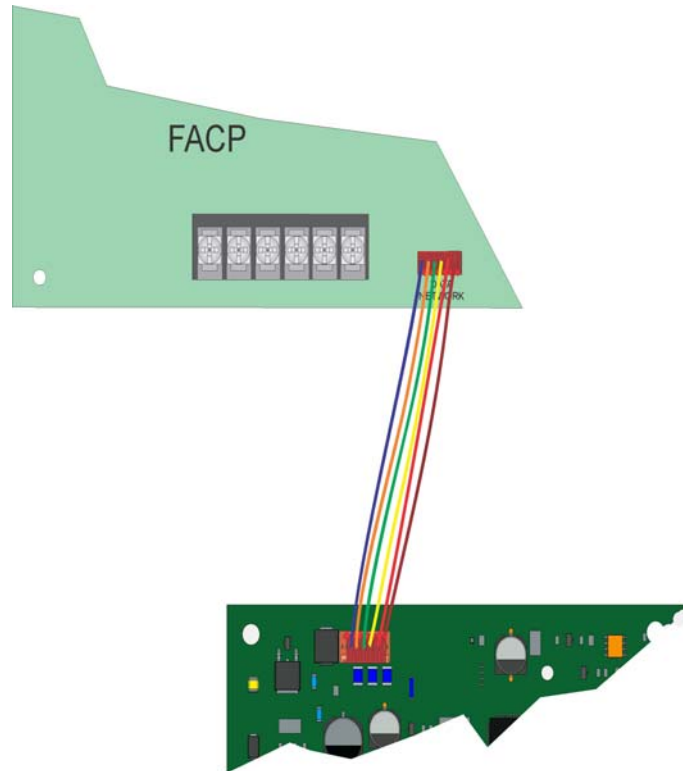

Figure 5.6 Panel to SK-NIC connection
2. Use the 6-pin cable included with SK-NIC to connect the 6808 to the SK-NIC. Connect the SK-NIC to the pin connector on the control panel labeled Data Network. See Figure 5.6.